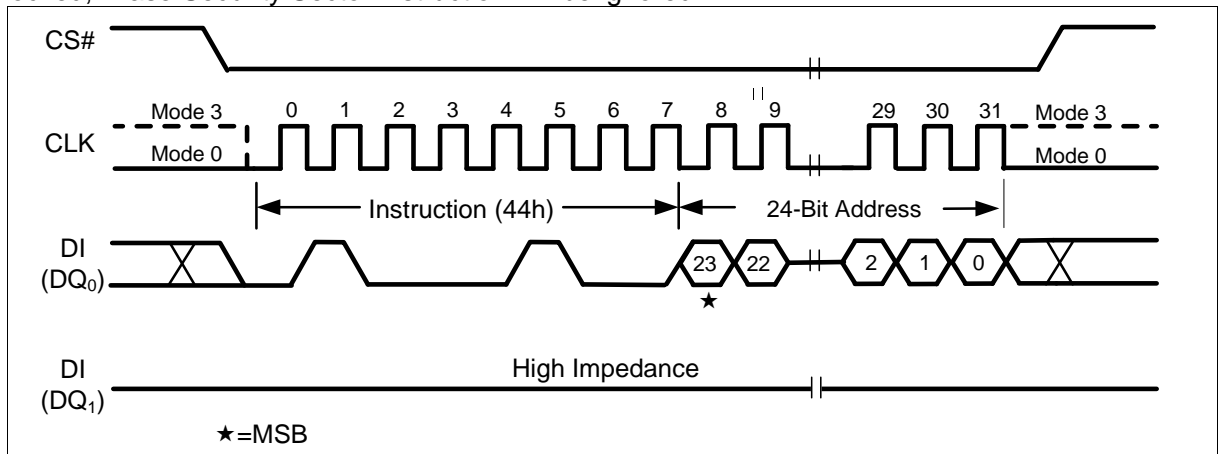

Figure 41 Erase Security Sectors Instruction (SPI Mode)
The Erase Security Sector instruction sequence is shown in Figure 41. The CS# pin must be driven high after the eighth bit of the last byte has been latched. If this is not done the instruction will not be executed. After CS# is driven high, the self-timed Erase Security Sector operation will commence for a time duration of t_{SE} (See “11.6AC Electrical Characteristics”). While the Erase Security Sector cycle is in progress, the Read Status Register instruction may still be accessed for checking the status of the WIP bit. The WIP bit is a 1 during the erase cycle and becomes a 0 when the cycle is finished and the device is ready to accept other instructions again. After the Erase Security Sector cycle has finished the Write Enable Latch (WEL) bit in the Status Register is cleared to 0. The Security Sector Lock Bit (LB) in the Status Register-2 can be used to OTP protect the Security Sectors. Once the LB bit is set to 1, the Security Sector will be permanently locked, Erase Security Sector instruction will be ignored.